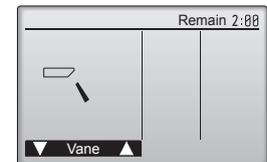

Fig. 7-6
- (1) Check the auto vane with the buttons. (Fig. 7-6)
- (2) Press the button to return to "Test run operation".
- (3) Press the button.